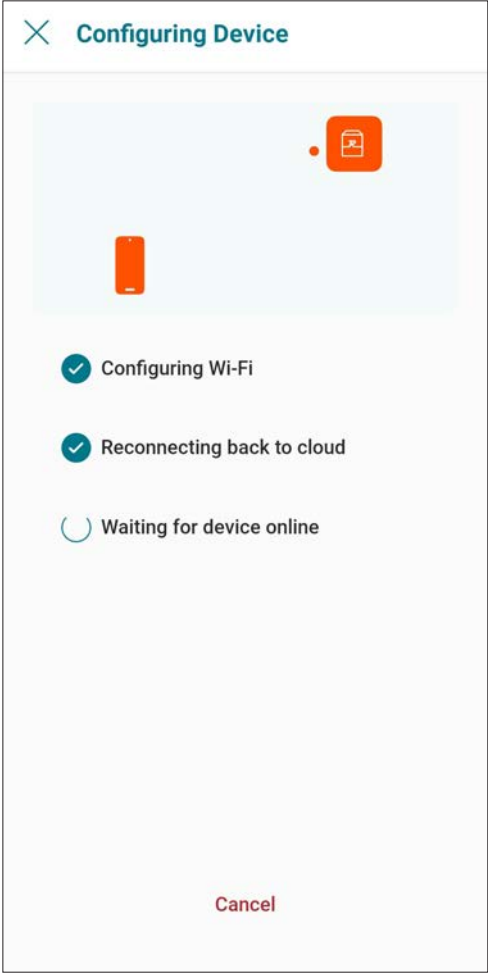

Figure 78. Configuring Device
- 7. Raymote app will provide the Wi-Fi credentials to your unit. This process may take a few seconds. See Figure 78.